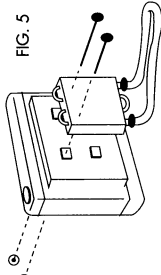

FIG. 5
7. (a) Attach light and medium duty coolers to radiator or A/C condenser with Quick-Mount nylon ties, making sure that rubber pads are installed between cooler and radiator or A/C condenser. (FIG. 5)